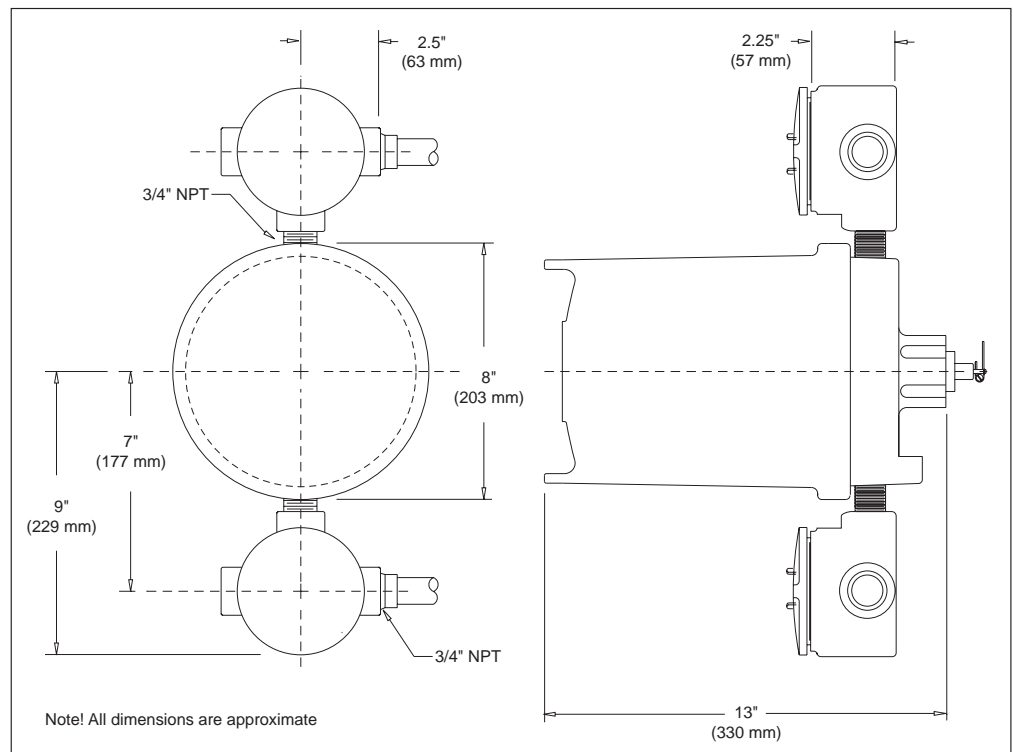

Figure 2–1: 2900 FTT Dimensions
2. There is sufficient space around the mechanical gauge to install the transmitter and accessories (such as conduit and cabling). Refer to Figure 2–1.